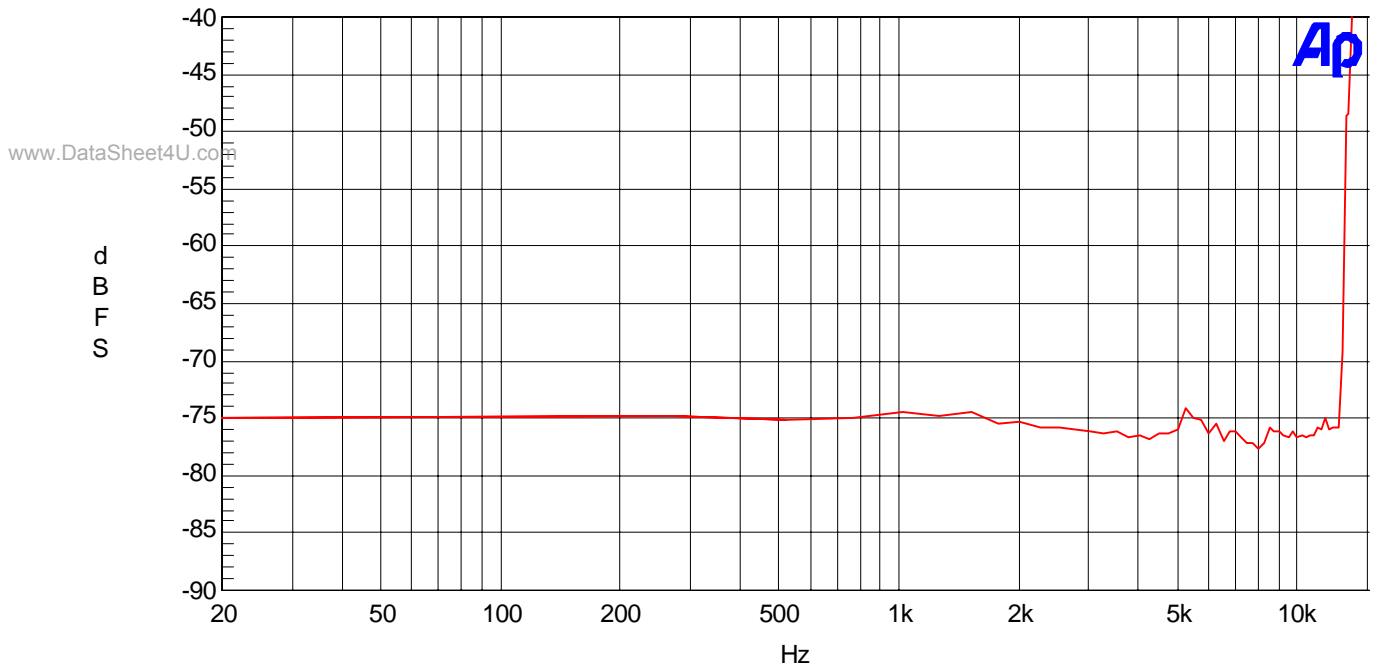

Figure 10. THD+N vs. Input Frequency (-15dB)
- Figure 10. THD+N vs. Input Frequency (-15dB)